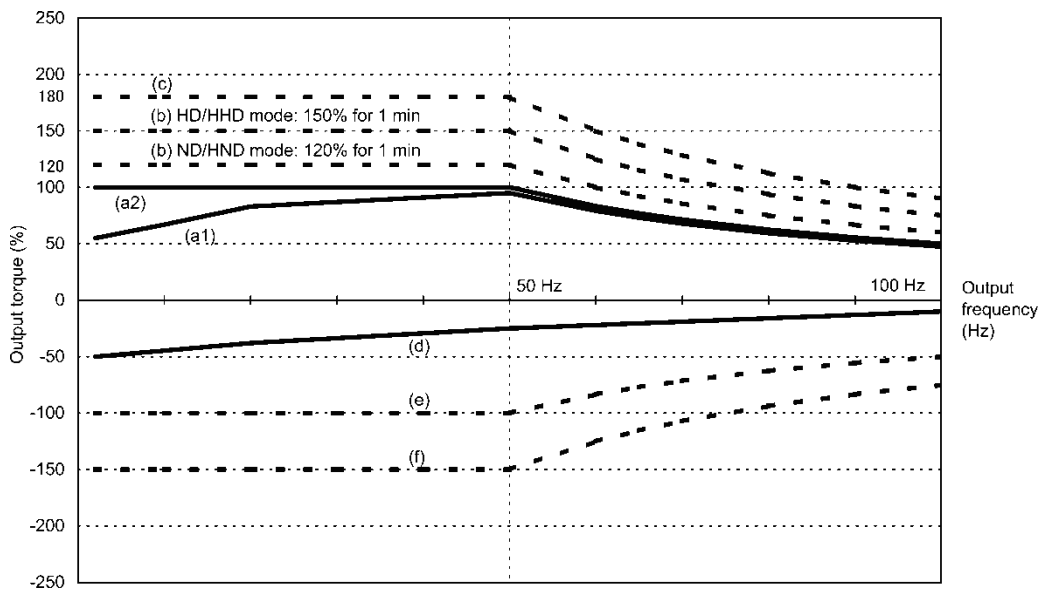
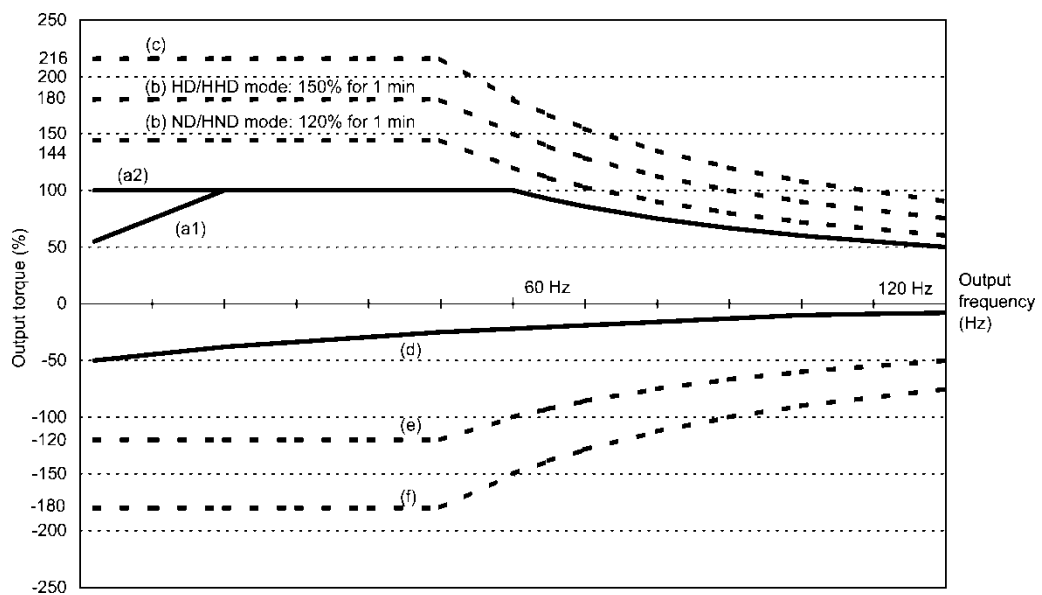

Figure 10.1-1 Output Torque Characteristics (Base frequency: 50 Hz)
Figure 10.1-2 Output Torque Characteristics (Base frequency: 60 Hz)
Figure 10.1-1 and Figure 10.1-2 graph the output torque characteristics of motors versus the output frequency for 50 Hz and 60 Hz base frequencies. The horizontal and vertical axes show the output frequency and output torque (%), respectively. Curves (a) through (f) depend on the running conditions.
**(1) Continuous allowable driving torque**
## ① Standard motor (Curve (a1) in Figure 10.1-1 and Figure 10.1-2)
## ② Motor exclusively designed for vector control (Curve (a2) in Figure 10.1-1 and Figure 10.1-2)
**(2) Maximum driving torque in a short time** (Curves (b) and (c) in Figure 10.1-1 and Figure 10.1-2)
**(3) Starting torque** (around the output frequency 0 Hz in Figure 10.1-1 and Figure 10.1-2)
**(4) Braking torque** (Curves (d), (e), and (f) in Figure 10.1-1 and Figure 10.1-2)